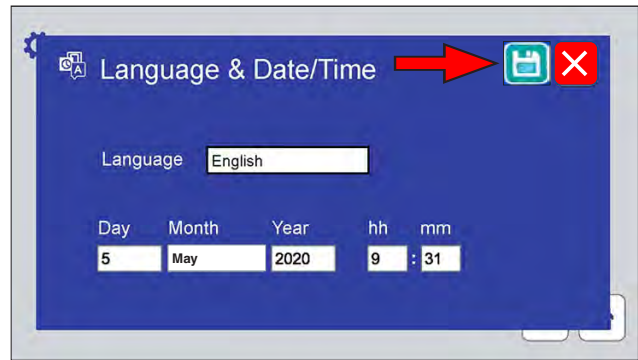

Figure 11.7p: Touch the save icon to save any changes to the Language & Date/Time.
- o Date/Time (Figure 11.7m through Figure 11.7p).